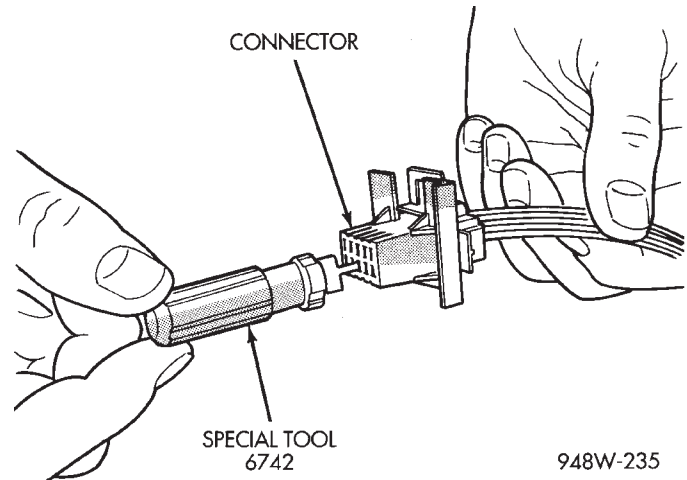

Fig. 14 Using Special Tool 6742
- (4) Using special tool 6742 release the locking fingers on the terminal (Fig. 14).
- (5) Pull on the wire to remove it from the connector.
- (6) Repair or replace the connector or terminal, as necessary.